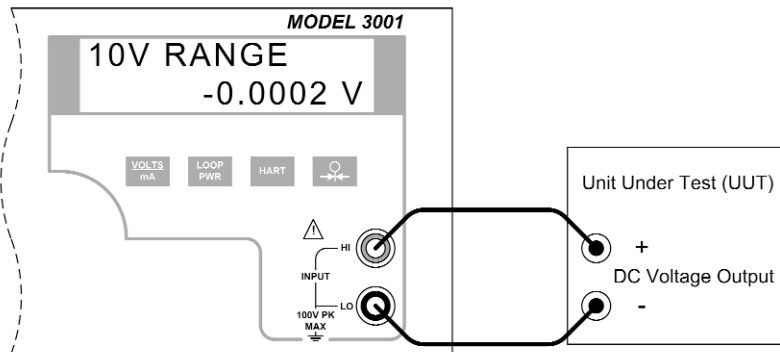

Figure 17 - Isolated DC Voltage Input Connection
- Connect the unit under test to the isolated voltage/current input terminals of the 3001 as shown in figure 17.